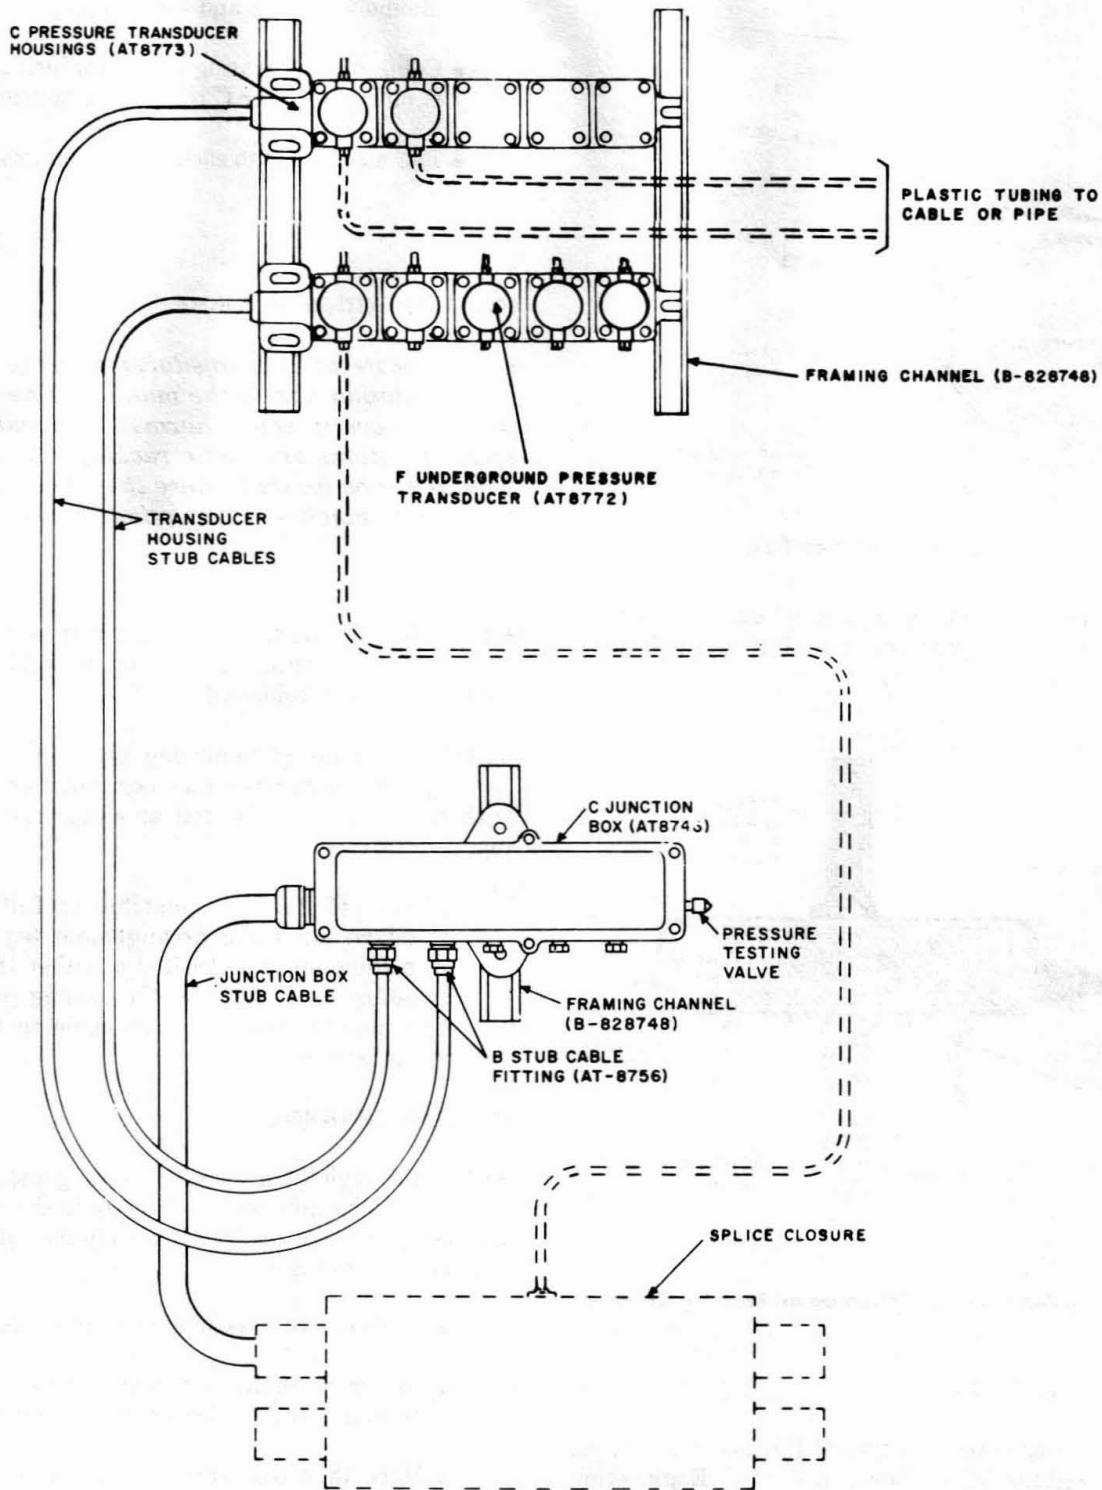

Fig. 6—Example of F Pressure Transducer Installation
6.01 An example of a typical F transducer system installation is shown in Fig. 6. Engineering work prints should include the following information:
6.19 Figure 6 shows an example of the tubing connections for the F Pressure Transducer System installation. After the tubing has been installed and pressurized, check all fittings with E pressure testing solution for leaks.